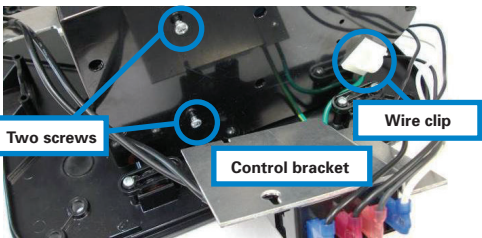

Figure 2-3
Step 2-2. Remove the **two (2)** screws that fasten the control bracket onto the dryer and **save them for Step 2-13**. Remove the four wires from the white wire clip while keeping them attached to the Control (Figure 2-3).